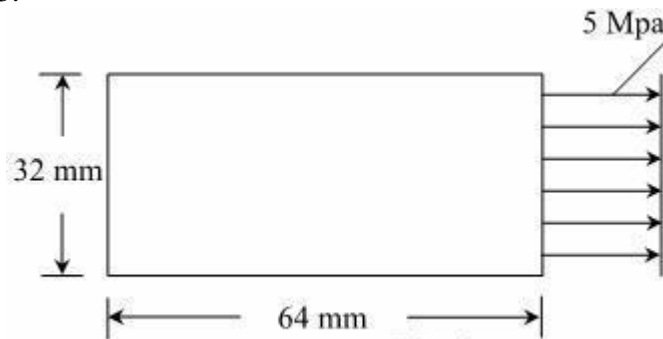

Fig. 4
- b) Find the deformed configuration, and the maximum stress and minimum stress locations for the rectangular plate loaded as shown in the fig.4. Solve the problem using 2 triangular elements. Assume thickness = 10cm; $E = 70\text{ Gpa}$, and $\nu = 0.33$.